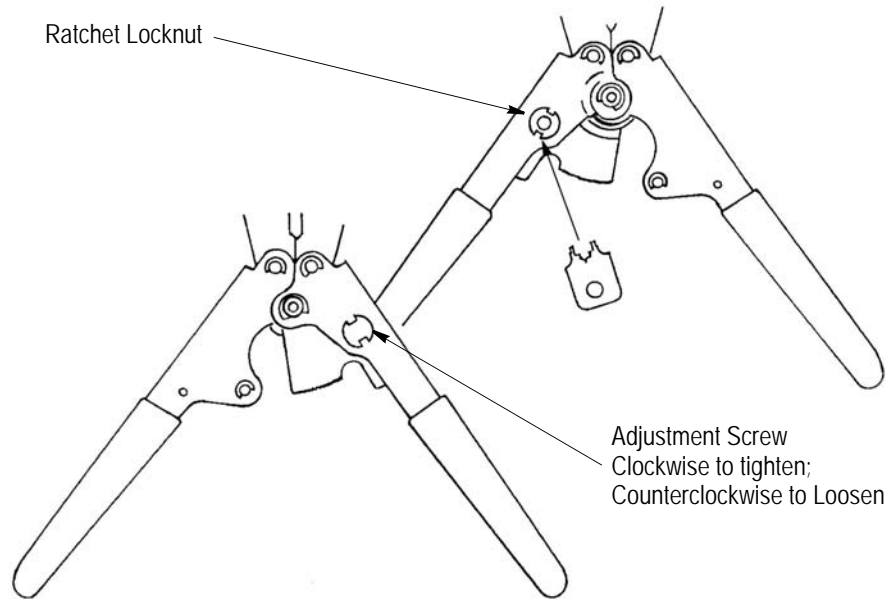

Figure 5
**5. TOOL ADJUSTMENT** (Figure 5)